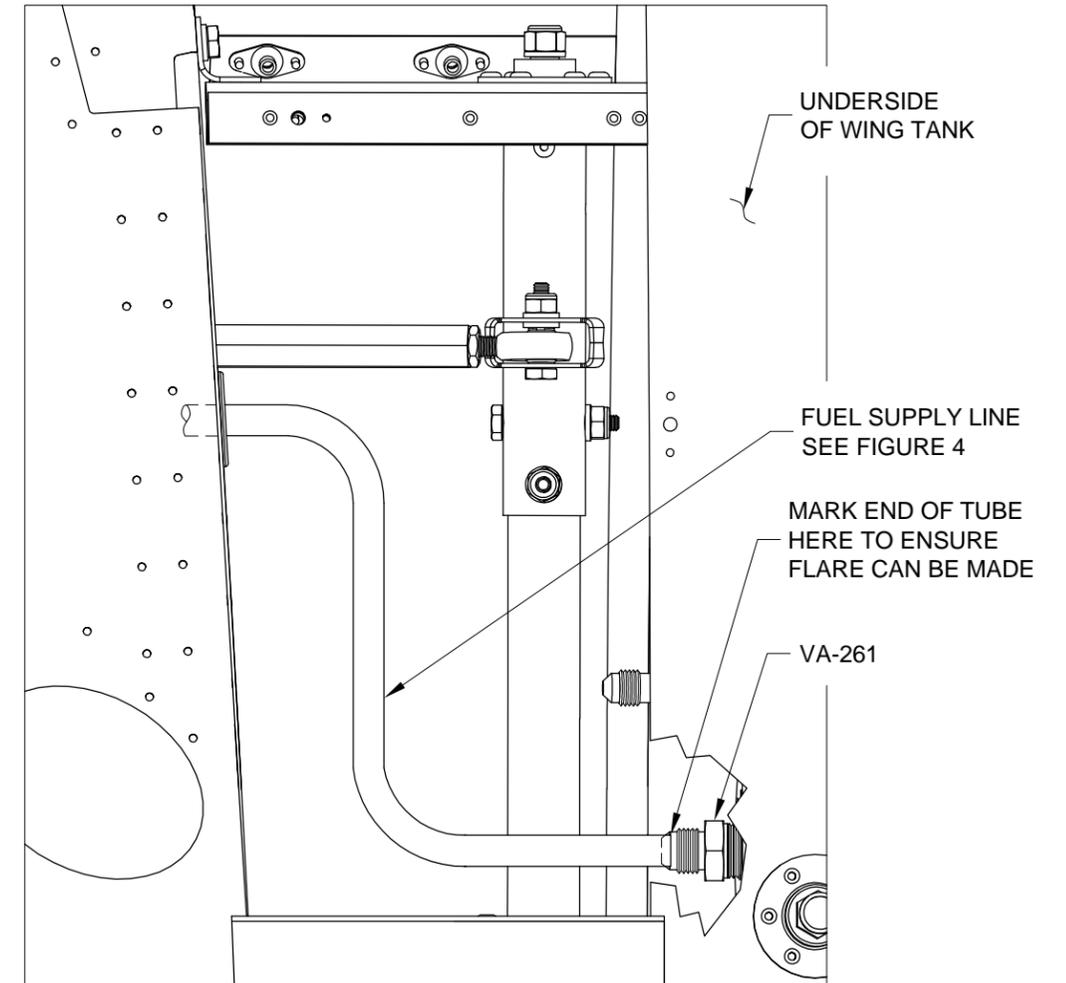

FIGURE 3: MEASURE FUEL SUPPLY LINE (BOTTOM VIEW)
Step 5: Position the fuel supply line near to the VA-261 Fuel Strainer fitting as shown in Figure 3. Mark the tube for cutting. Leave enough material so that it will not be pre loaded when attached and remember to account for the flare.